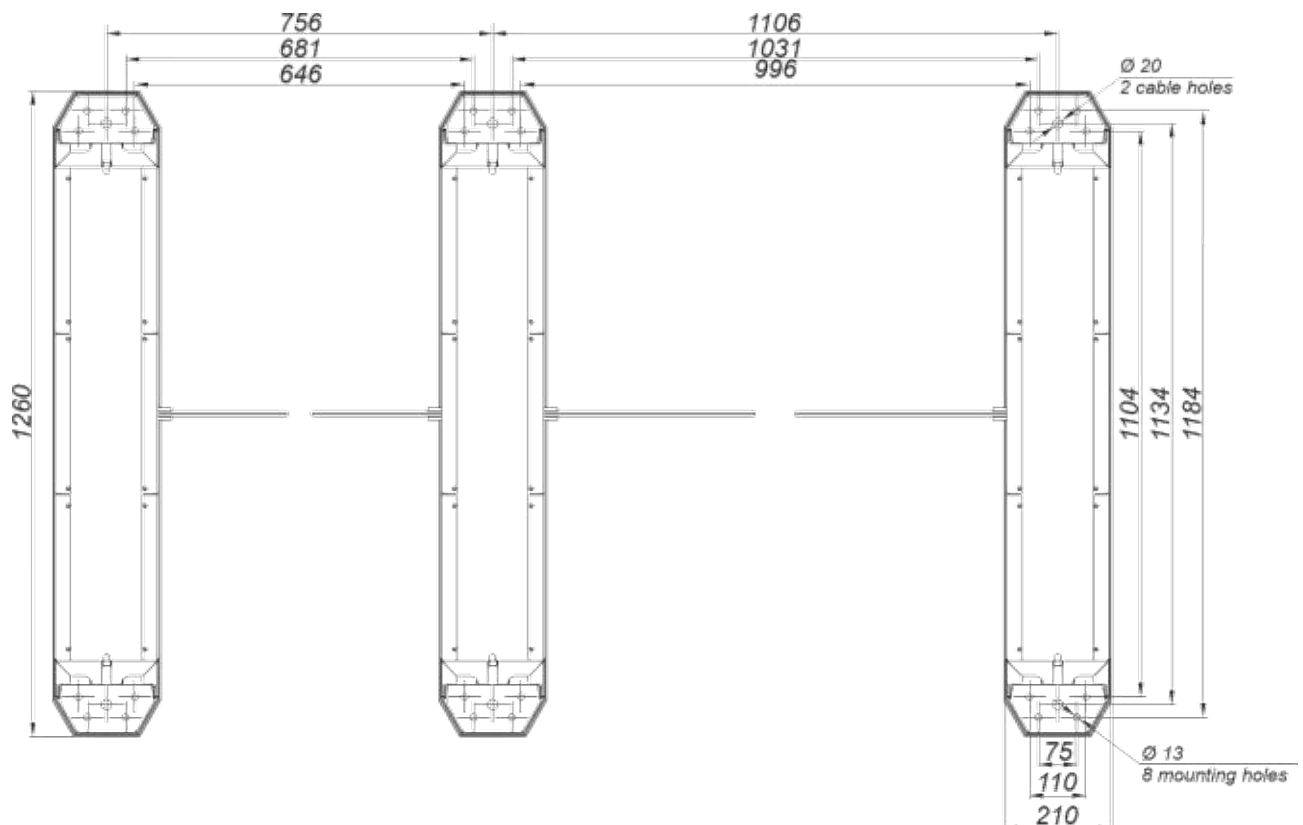

Fig. 17 – Installation dimensions of the "Sweeper-WP-1" and "Sweeper-WP-2" turnstiles set
- 5) The turnstile fixation holes to be marked on the area surface according to Figure 17 (for turnstiles with 550 mm and 900 mm lanes). The turnstile itself can be used as a template.
5. - Fixation holes at the turnstile bottom plate to be aligned with the prepared surface holes according to the marking in Fig.17;